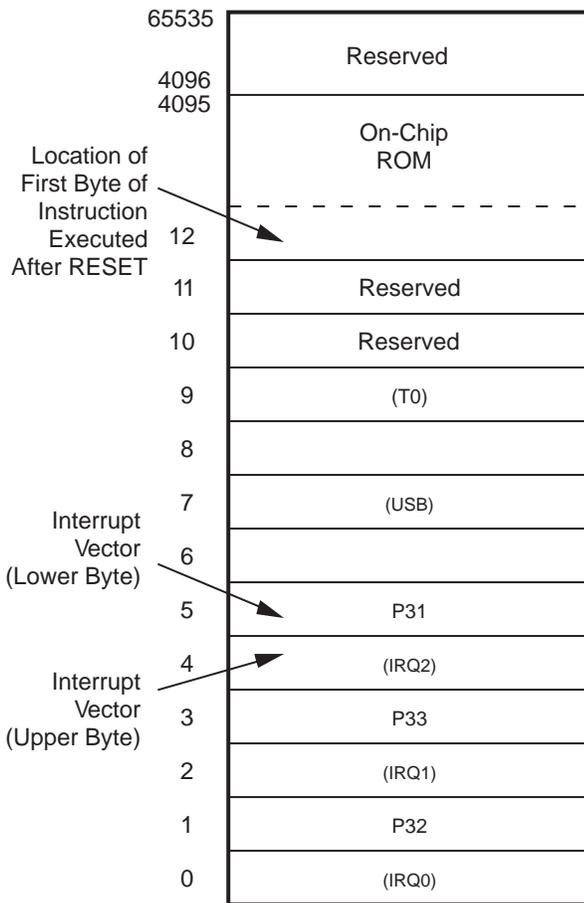

Figure 10. Program Memory Map
**Program Memory.** The 16-bit program counter addresses 4 KB of program memory space at internal locations (Figure 10).